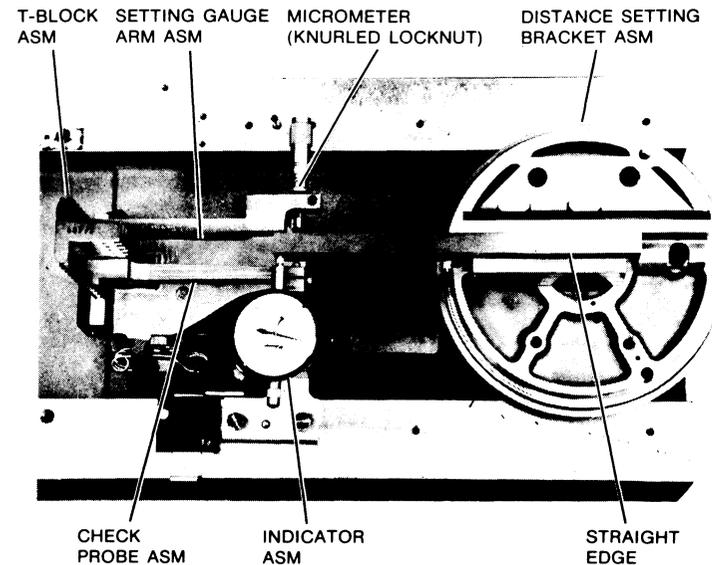

FIGURE 4-20. WAY ADJUSTMENT TOOLS ON FULLY RETRACTED WAY
2. Referring to Figure 4-20, mount the distance setting bracket assembly on the drive spindle; the micrometer should be set at 0.200 or higher. Make certain the mating surfaces of adapter and spindle are free of foreign particles.
5. Mount the way check probe in the same manner, on the opposite side of the T-block (refer to Figure 4-20). The ball attachment on the micrometer and the spherical point on the way check probe should be at an equal height 0.1 inch from the bottom of the straight edge. Torque the four screws retaining the check probe using the torque wrench at 6 in-lbs.
6. Loosen the knurled lock nut (Figure 4-20), and **very gently** crank the micrometer head on the setting gauge arm until both spherical points touch the straight edge. This must be done gently to prevent gauge deflection. The carriage must be in the fully retracted position. Be advised that **the micrometer ball attachment comes off easily.**
9. With a finger placed behind the T-block to avoid jarring, move the carriage from its fully retracted position (Figure 4-20) to its fully extended position (Figure 4-21) to verify that: